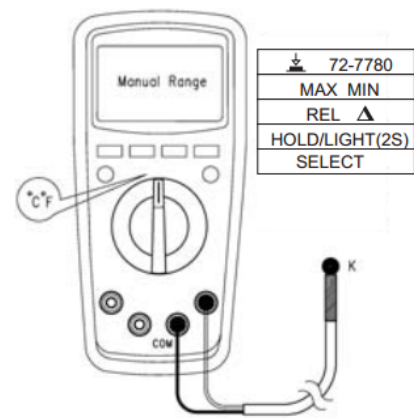

Figure 9
7. Temperature measurement (see figure 9)